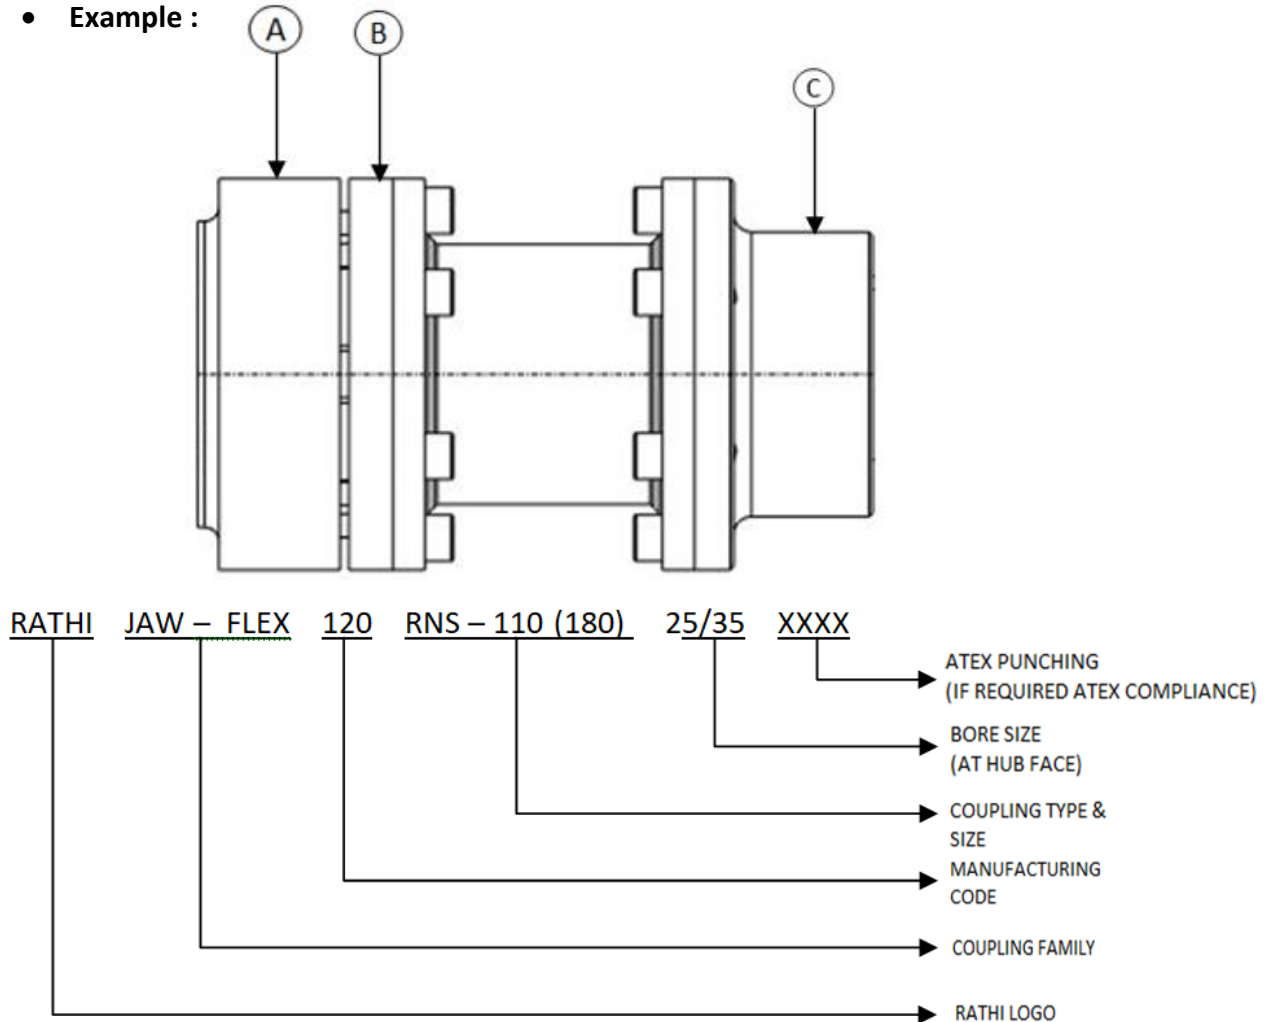

Fig.7 Marking Details
- The ATEX marking for RGD coupling will be given on outer surface or front side (Fig. 7).